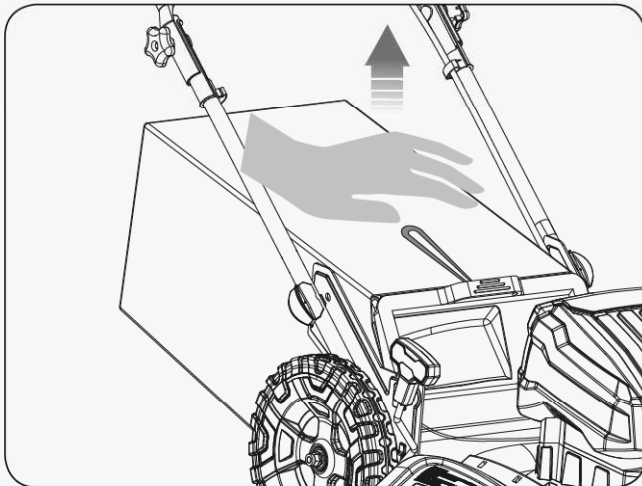

Figure 13
3. Lift the grass catcher with the frame handle. (See Figure 13)